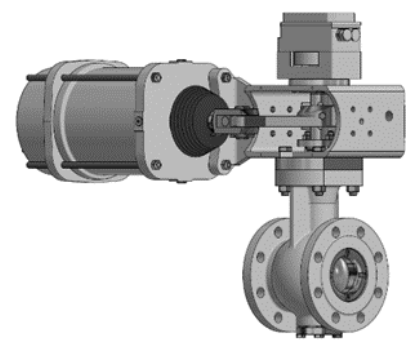

Fig. 2: Type 82.7-02/R
- pneumatic rolling diaphragm actuator Type R → control valve Type 82.7-02/R (Fig. 2)